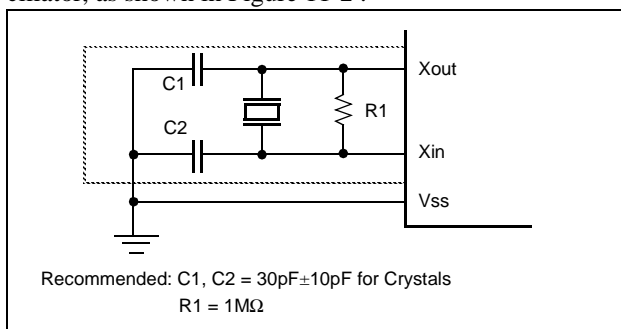

Figure 11-2 Oscillator Connections
XIN and XOUT are the input and output, respectively, a inverting amplifier which can be set for use as an on-chip oscillator, as shown in Figure 11-2 .
**Note:** When using a system clock oscillator, carry out wiring in the broken line area in Figure 11-2 to prevent any effects from wiring capacities.